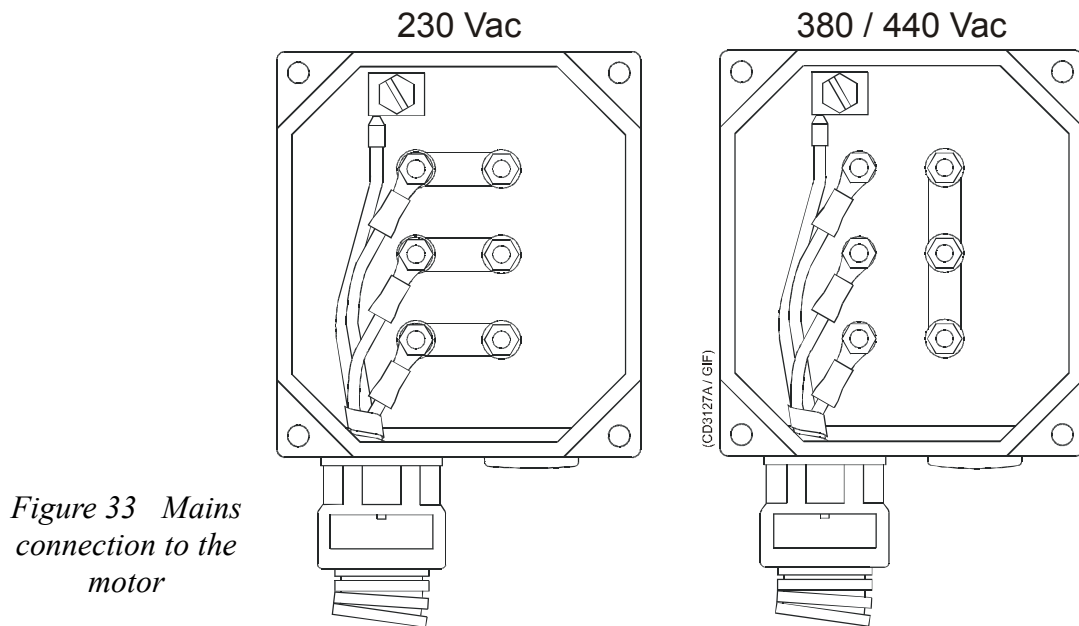

Figure 33 Mains connection to the motor
- Refer to figure 33 on page 96.